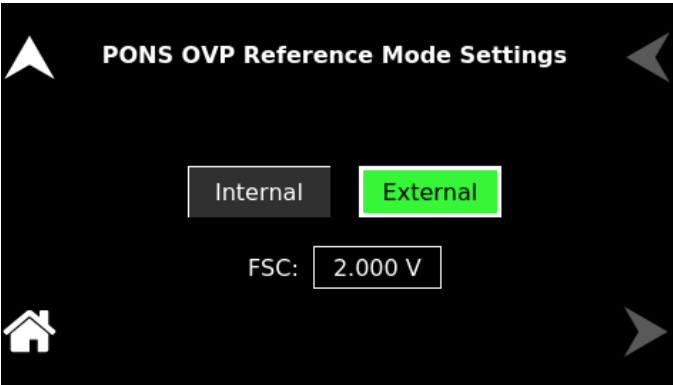

Figure 10-179. PONS OVP Reference Mode
- **PONS OVP Ref Mode:** Configures the PONS Over Voltage Protection (OVP) Reference Mode. When the PONS OVP Reference Mode is set to External, the OVP setting field on the Dashboard screen and the ‘Protection’ option in the Configuration screen will be disabled, and these OVP fields will display as ‘EXT’ refer to Figure 10-179.